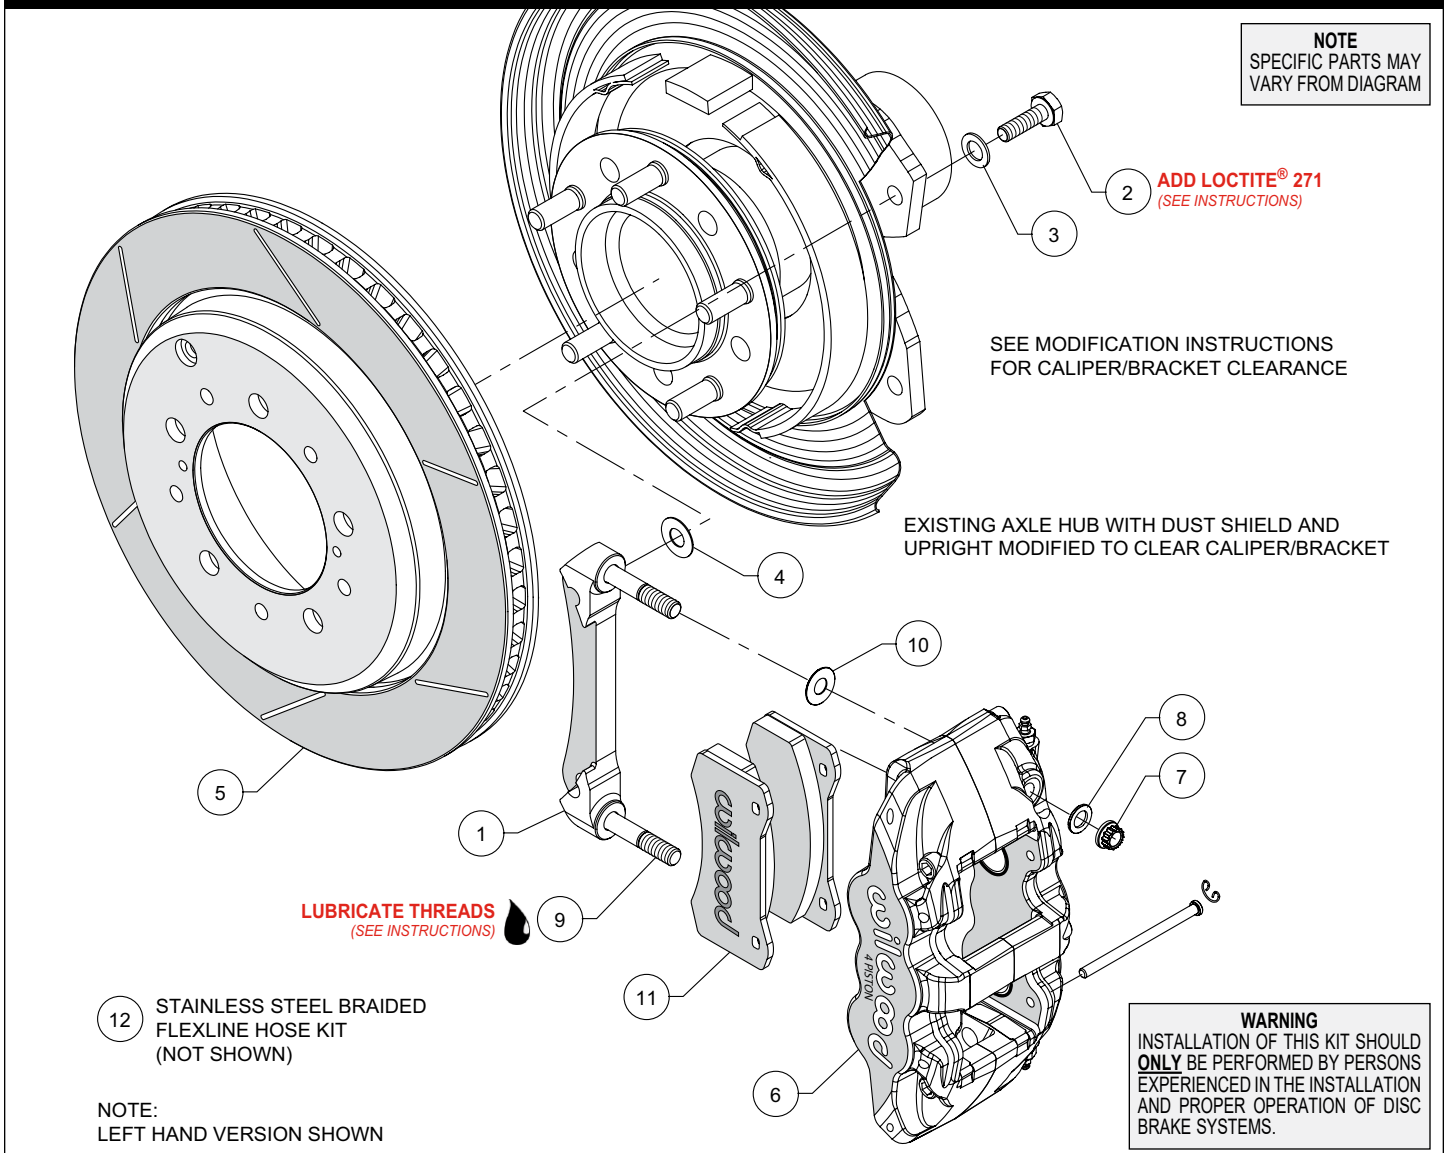

Figure 1. Typical Installation Configuration
**NOTE:** Numbers in parenthesis refer to the parts list and Figure 1 on the preceding pages.
•The caliper mount bracket (1) should initially be installed with clean, dry threads on the mounting bolts. Orient the bracket as shown in Figure 1 and Photo 1, and install using bolts (2) and washers (3). Initially place one .029 thick shim (4) on each bolt between the bracket and upright, Figure 1. Temporarily tighten the mounting bolts. **NOTE:** The bracket must fit squarely against the mount bosses on the upright. Inspect for interference from casting irregularities, machining ridges, burrs, etc. Later, after the caliper alignment has been checked, the mount bolts will be secured using red Loctite® 271.
•Lubricate the caliper mounting studs (9) with lightweight oil. Initially place one .030" thick shim (10) on each stud as shown in Figure 1 and Photo 3. Mount the caliper (6) onto the bracket (1) using lock nuts (7) and washers (8), Figure 1. Temporarily tighten the lock nuts and view the rotor through the top opening of the caliper. The rotor should be centered in the caliper, Photo 4. If not, adjust by adding or subtracting shims (4) between the bracket (1) and the upright. Always use the same amount of shims on each of the two mounting bolts. Once the caliper alignment is correct, remove the bracket mounting bolts (2) one at a time, apply red Loctite® 271 to the threads, and torque to 77 ft-lb.
- Remove the caliper (6), then remove the two pad retaining pins from the caliper by carefully popping out the pin retaining clips and sliding out the pins. Insert the brake pads (11) into the caliper from the bottom, Figure 1 and Photo 5. With the friction material facing the rotor, secure the brake pads in place with the pad retaining pins and clips, Photo 6. Reinstall the caliper onto the caliper mounting bracket and temporarily tighten the lock nuts. Check that the top of the brake pad is flush with the outside diameter of the rotor, Photo 7. If not, adjust by adding or subtracting shims (10) between the caliper and the bracket. After the caliper pad height is set, torque the caliper lock nuts (7) to 47 ft-lb.